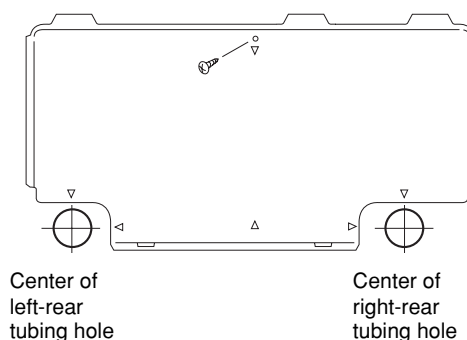

Fig. 3-21
- (1) Remove the rear panel from the indoor unit and place it on the wall at the location selected. Make sure the unit is horizontal using a level gauge or tape measure to measure down from the ceiling.
- (2) Determine which side of the unit you should make the hole. (Fig. 3-21)
- (3) Before making a hole, check carefully that no studs or pipes are directly run behind the spot to be cut.